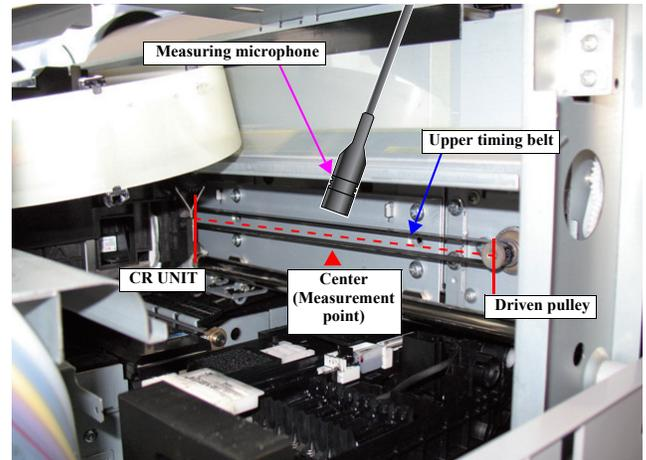

Figure 4-15. Measuring the belt tension
7. Bring the microphone of the tensimeter closer to the position shown in Figure 4-15.